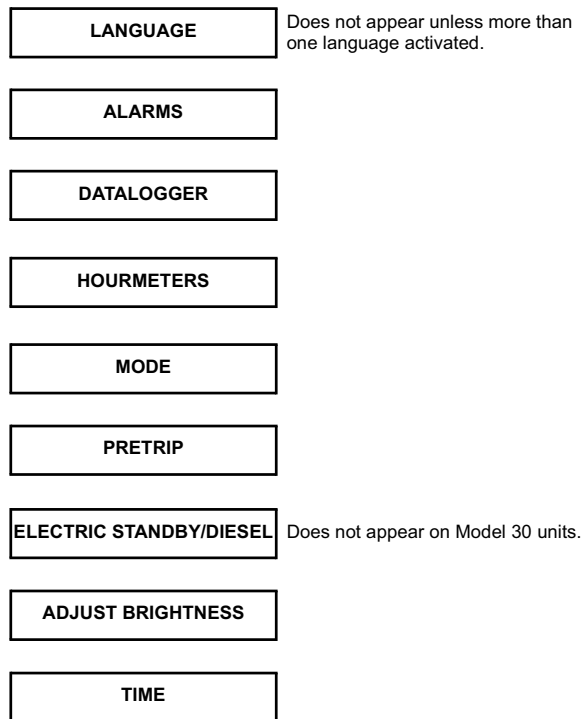

Figure 59: Main Menu Choices
3. Press **NEXT** and **BACK** soft keys to scroll up or down through the main menu areas. See Figure 58 and Figure 59.